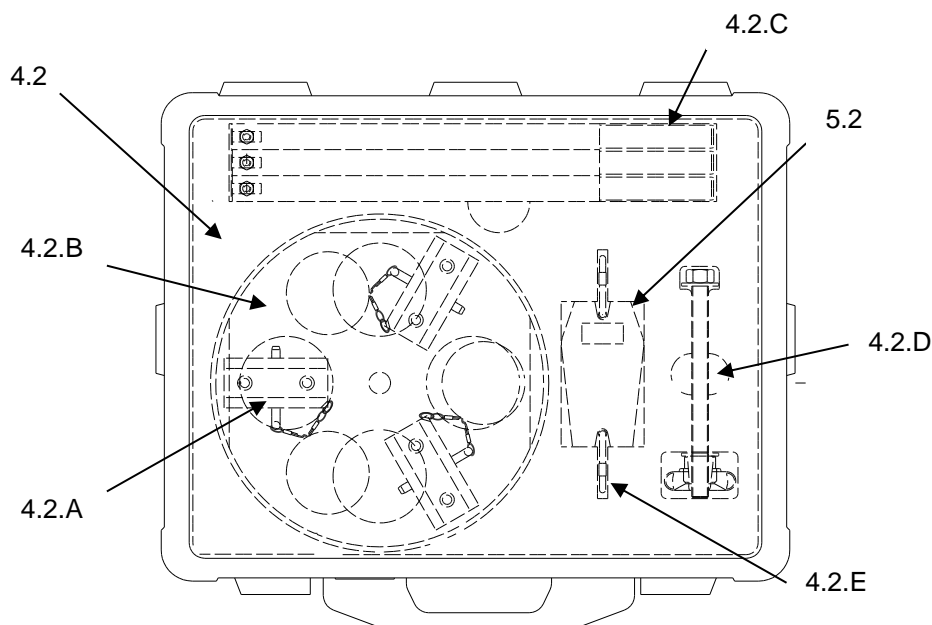
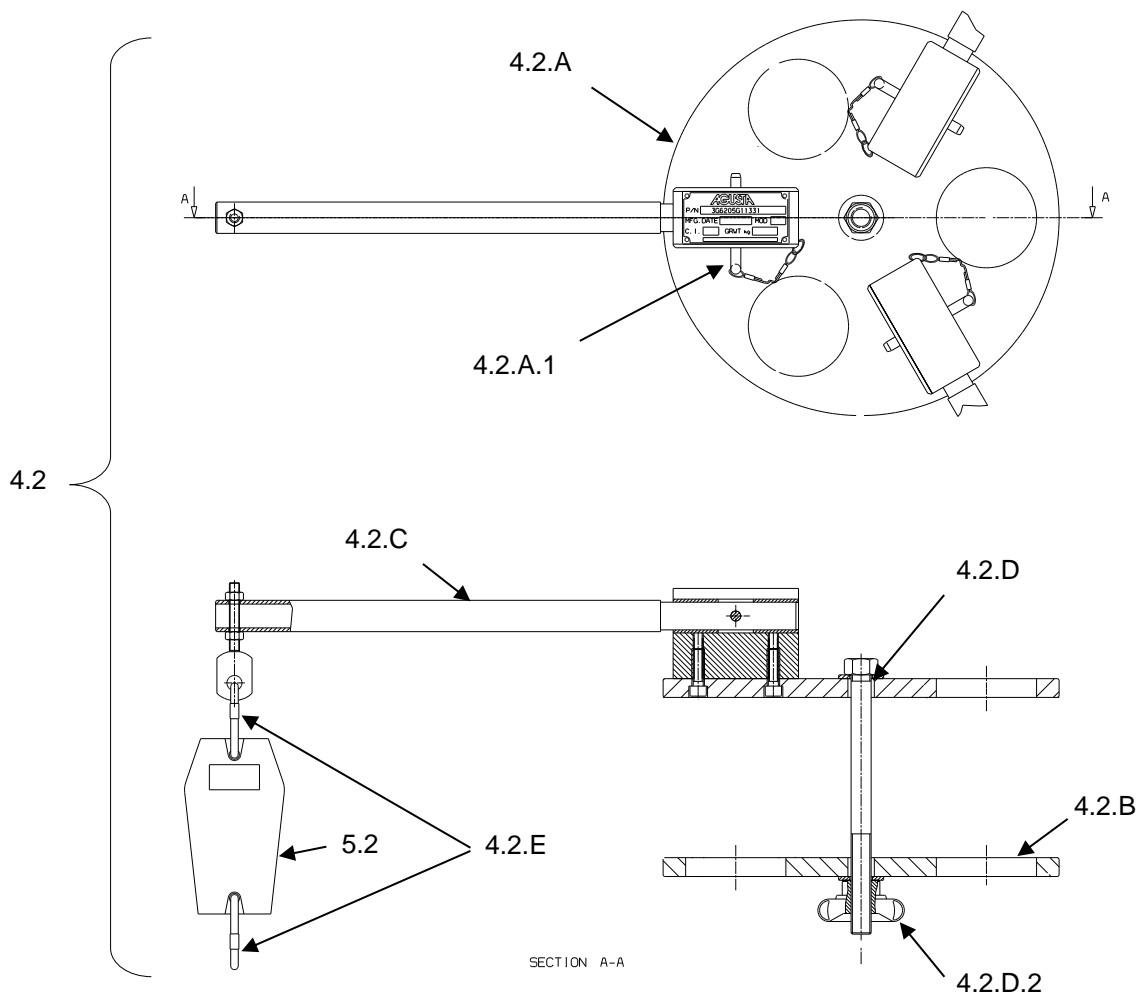

Figure 5 – Tool Kit, Swashplate Assy Assembly Case 2 Main Parts
Figure 12 - Tool, Swashplate Pivot Friction Check
- 3G6205G11331 TOOL, SWASHPLATE PIVOT FRICTION CHECK (#4.2, Figure 5), composed by following main items:
- 3G6205G12731 UPPER PLATE ASSY (#4.2.A, Figure 5)
- 3G6205G13531 SCREW ASSY (#4.2.D, Figure 5)
- 3G6205G13151 LOWER PLATE (#4.2.B, Figure 5)
- 3G6205G13231 ARM ASSY (QTY 4) (#4.2.C, Figure 5)
- SPRING CATCH (QTY 2) (#4.2.E, Figure 5)
- HANDIFOR-20 DYNAMOMETER (#5.2, Figure 5)
1. Install upper plate assy (#4.2.A, Figure 5 and Figure 12) and screw assy (#4.2.D, Figure 5 and Figure 12) without the knob (#4.2.C.2, Figure 12).
2. Install lower plate (#4.2.B, Figure 5 and Figure 12) and lock it to in position with the knob (#4.2.C.2, Figure 12).
3. Install N°4 arm assy (#4.2.D, Figure 5 and Figure 12) and lock them with the pins (#4.2.A.1, Figure 12)
4. Install the dynamometer (#5.2, Figure 5 and Figure 12) with spring catch (#4.2.E, Figure 5 and Figure 12) at the end of the arm assy.